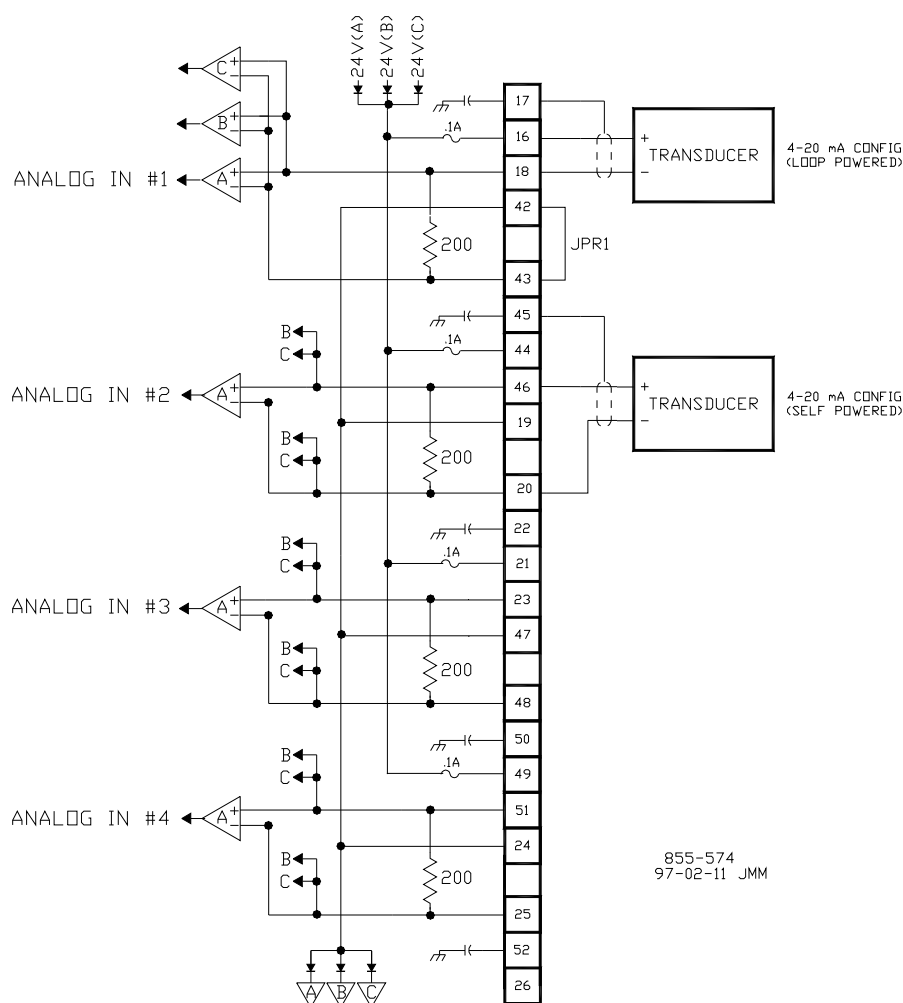

Figure 4-8. Example Analog Input Wiring Diagrams
For a 4–20 mA input signal, the 24/8 Analog Module uses a 200 ohm resistor across the input located on the 24/8 Analog Module. Each analog input channel may power its own 4–20 mA transducer. See Figure 4-8 for analog input connection. This power is protected with a 100 mA fuse on each channel to prevent an inadvertent short from damaging the module. The 24 Vdc outputs are capable of providing 24 Vdc with  $\pm 10\%$  regulation. The maximum current is 0.8 A. Power connections can be made through terminals located on the 24/8 Analog FTMs. See Chapter 11 for complete field wiring information for the 24/8 Analog FTM.
Each actuator output can also be configured to drive single- or dual-coil actuators. When configuring an output to drive into either type of actuator, the output must be wired correctly (see Figures 4-8 and 4-9), and the control's program configured for the correct type of actuator. See Volume 3 for details on programming actuator outputs.
- Refer to Figures 4-8 and 4-9 and **Appendix A** for Actuator Output wiring connections to the FTMs.